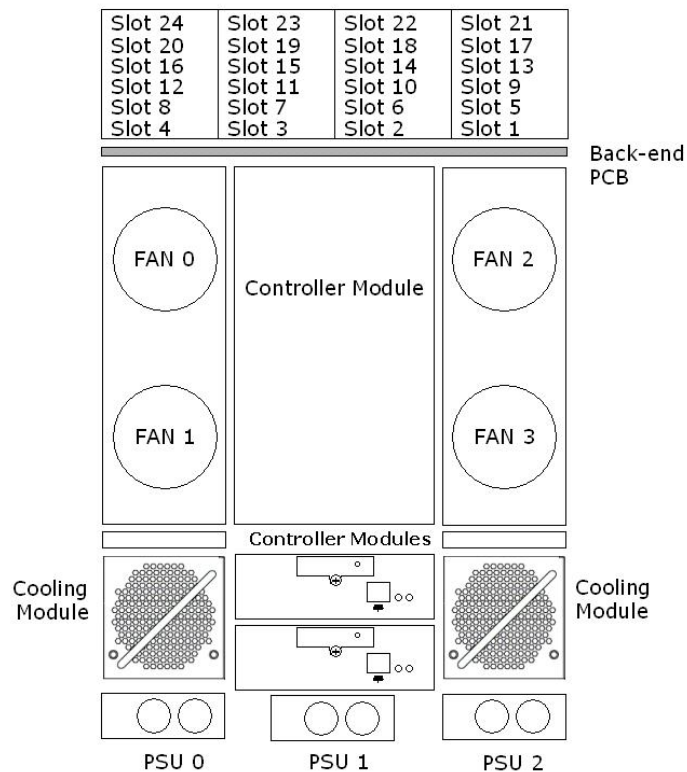

Figure 1-2: Galaxy 24-bay SATA RAID Subsystem Overview
The Galaxy A24F subsystem enclosure is a 4U metal chassis. A back-end PCB is enclosed in thick gauge sheet metal that divides the enclosure internally into front and rear sections. (See *Figure 1-2*) The front section accommodates twenty-four (24) drive trays (with their associated hard drives) and the rear section accommodates three (3) PSU modules, two (2) dual-fan cooling modules, and the dual-redundant RAID controller modules. The two (2) foldable handles on the front of the chassis enable you to easily insert/extract the chassis into/from a rack cabinet. The subsystem enclosure can be mounted into standard 19-inch rack cabinets using separately purchased slide rails.